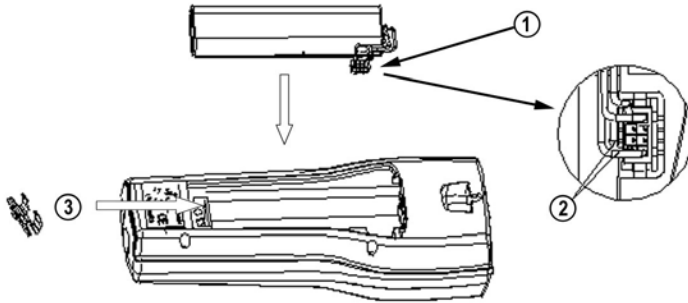

Figure 8 Installing the Battery Pack
3. Connect the black connector of the new battery pack. Make sure the position of the connector is as shown in Figure 8 on the facing page (red and black wires are on the upper edge of the connector). Do not push the connector with conducting material.